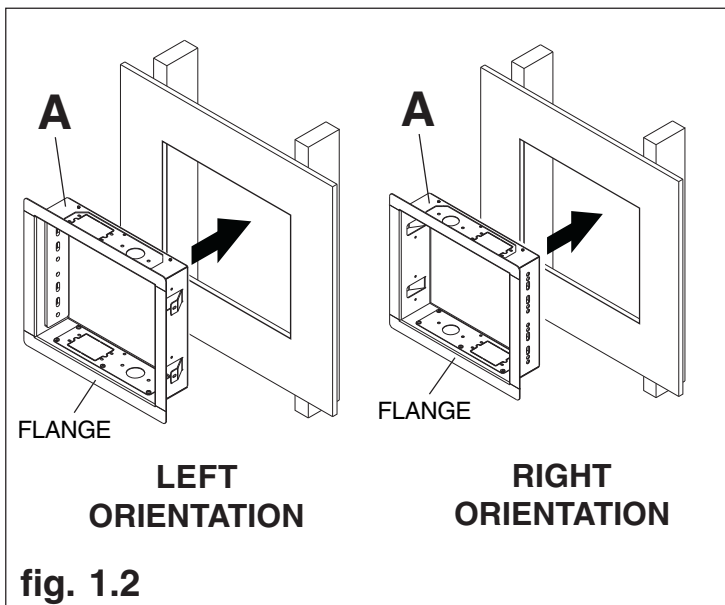

fig. 1.2
**1** In-wall box (A) can be installed between two studs 16" off center. Use a stud finder to locate the edges of the stud. Use of an edge-to-edge stud finder is highly recommended. Based on its edges, draw two vertical lines down the inside edges of stud's. Mark desired center of in-wall box. Draw a horizontal line above desired center of in-wall box 6-1/8" (150 mm). Draw a second horizontal line 12-1/4" (311 mm) below this line to outline wall opening between inside edges of studs. Remove drywall inside cut outline.
**Note:** In-wall box can be flipped for left of right side mount orientation as shown in figure 1.2.